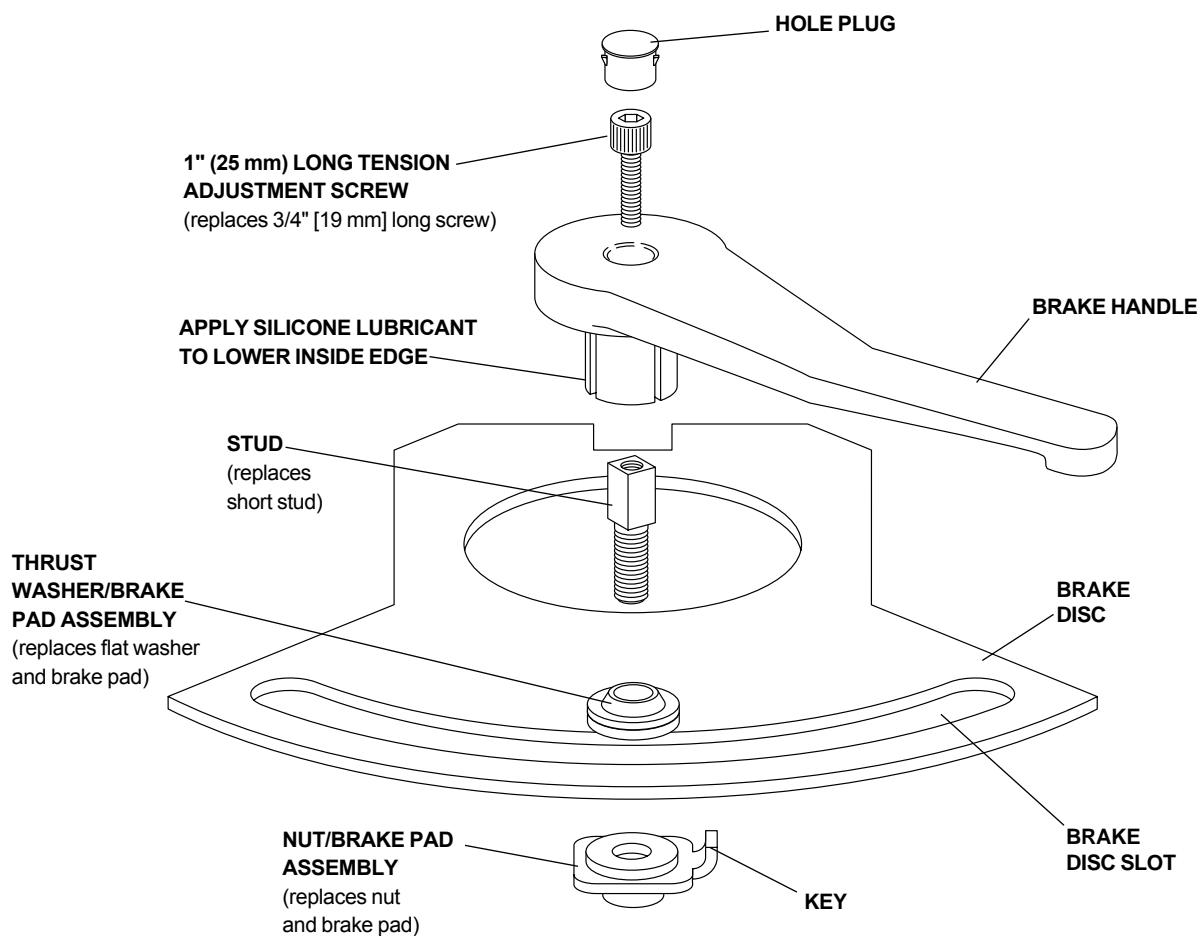

FIGURE 2
Refer to Figure 2 on page 2 while completing these instructions.
2. Position the thrust washer/brake pad on top of the brake disc and align it with the hole for the brake handle. Make sure the assembly is positioned with the thrust washer on top as shown in Figure 2.
3. Position the nut/brake pad assembly under the brake disc with the key on the nut inserted in the brake disc slot (see Figure 2). The key may be oriented either to the right or to the left. Align this assembly with the thrust washer/brake pad assembly positioned in step 2.
5. Remove the new handle from the kit. Apply a light coat of silicone lubricant from the kit to the lower inside edge of the handle hub (see Figure 2).
6. Position the handle as shown in Figure 2. Install the 1" (25 mm) long tension adjustment screw from the kit through the handle and into the stud. Tighten the screw to secure the handle.